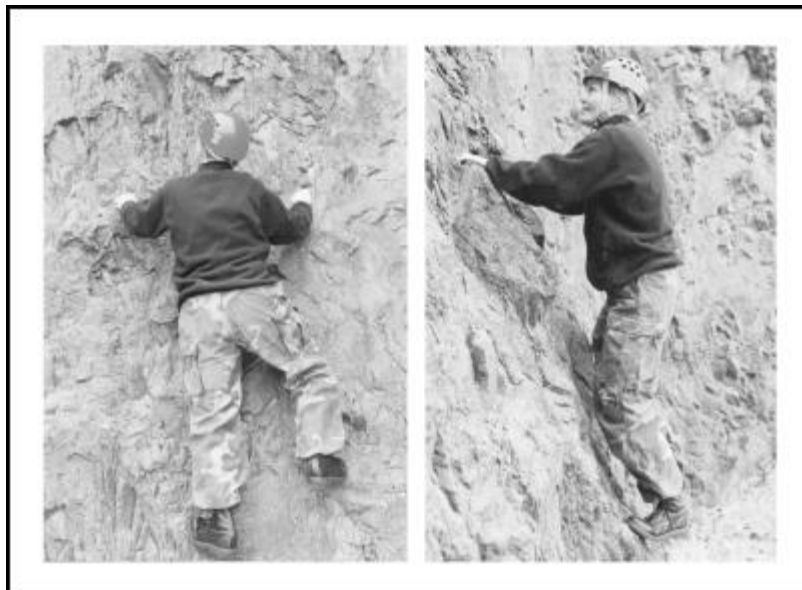
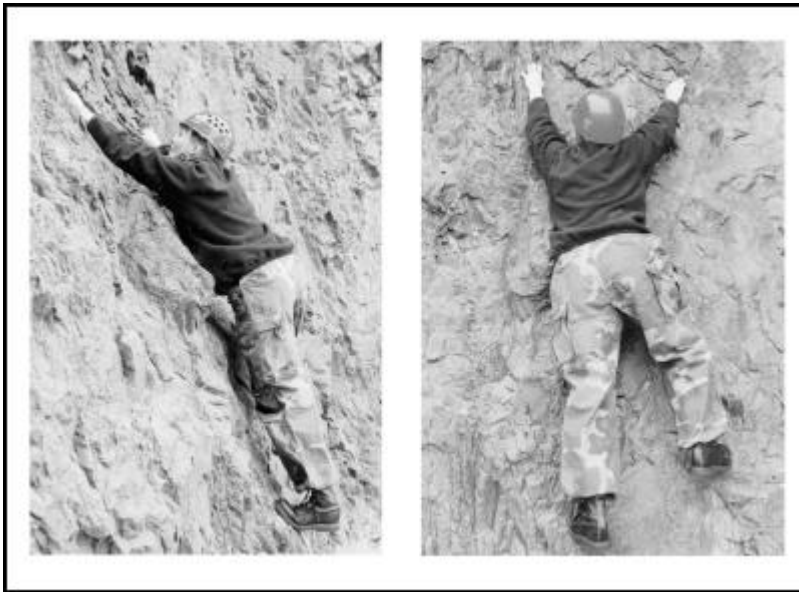

Figure 6-1. Correct climbing stance-balanced over both feet.
Figure 6-2. Incorrect stance-stretched out.
b. **Stance or Body Position.** Body position is probably the single most important element to good technique. A relaxed, comfortable stance is essential. (Figure 6-1 shows a correct climbing stance, and Figure 6-2 shows an incorrect stance.) The body should be in a near vertical or erect stance with the weight centered over the feet. Leaning in towards the rock will cause the feet to push outward, away from the rock, resulting in a loss of friction between the boot sole and rock surface. The legs are straight and the heels are kept low to reduce fatigue. Bent legs and tense muscles tire quickly. If strained for too long, tense muscles may vibrate uncontrollably. This vibration, known as "Elvis-ing" or "sewing-machine leg" can be cured by straightening the leg, lowering the heel, or moving on to a more restful position. The hands are used to maintain balance. Keeping the hands between waist and shoulder level will reduce arm fatigue.